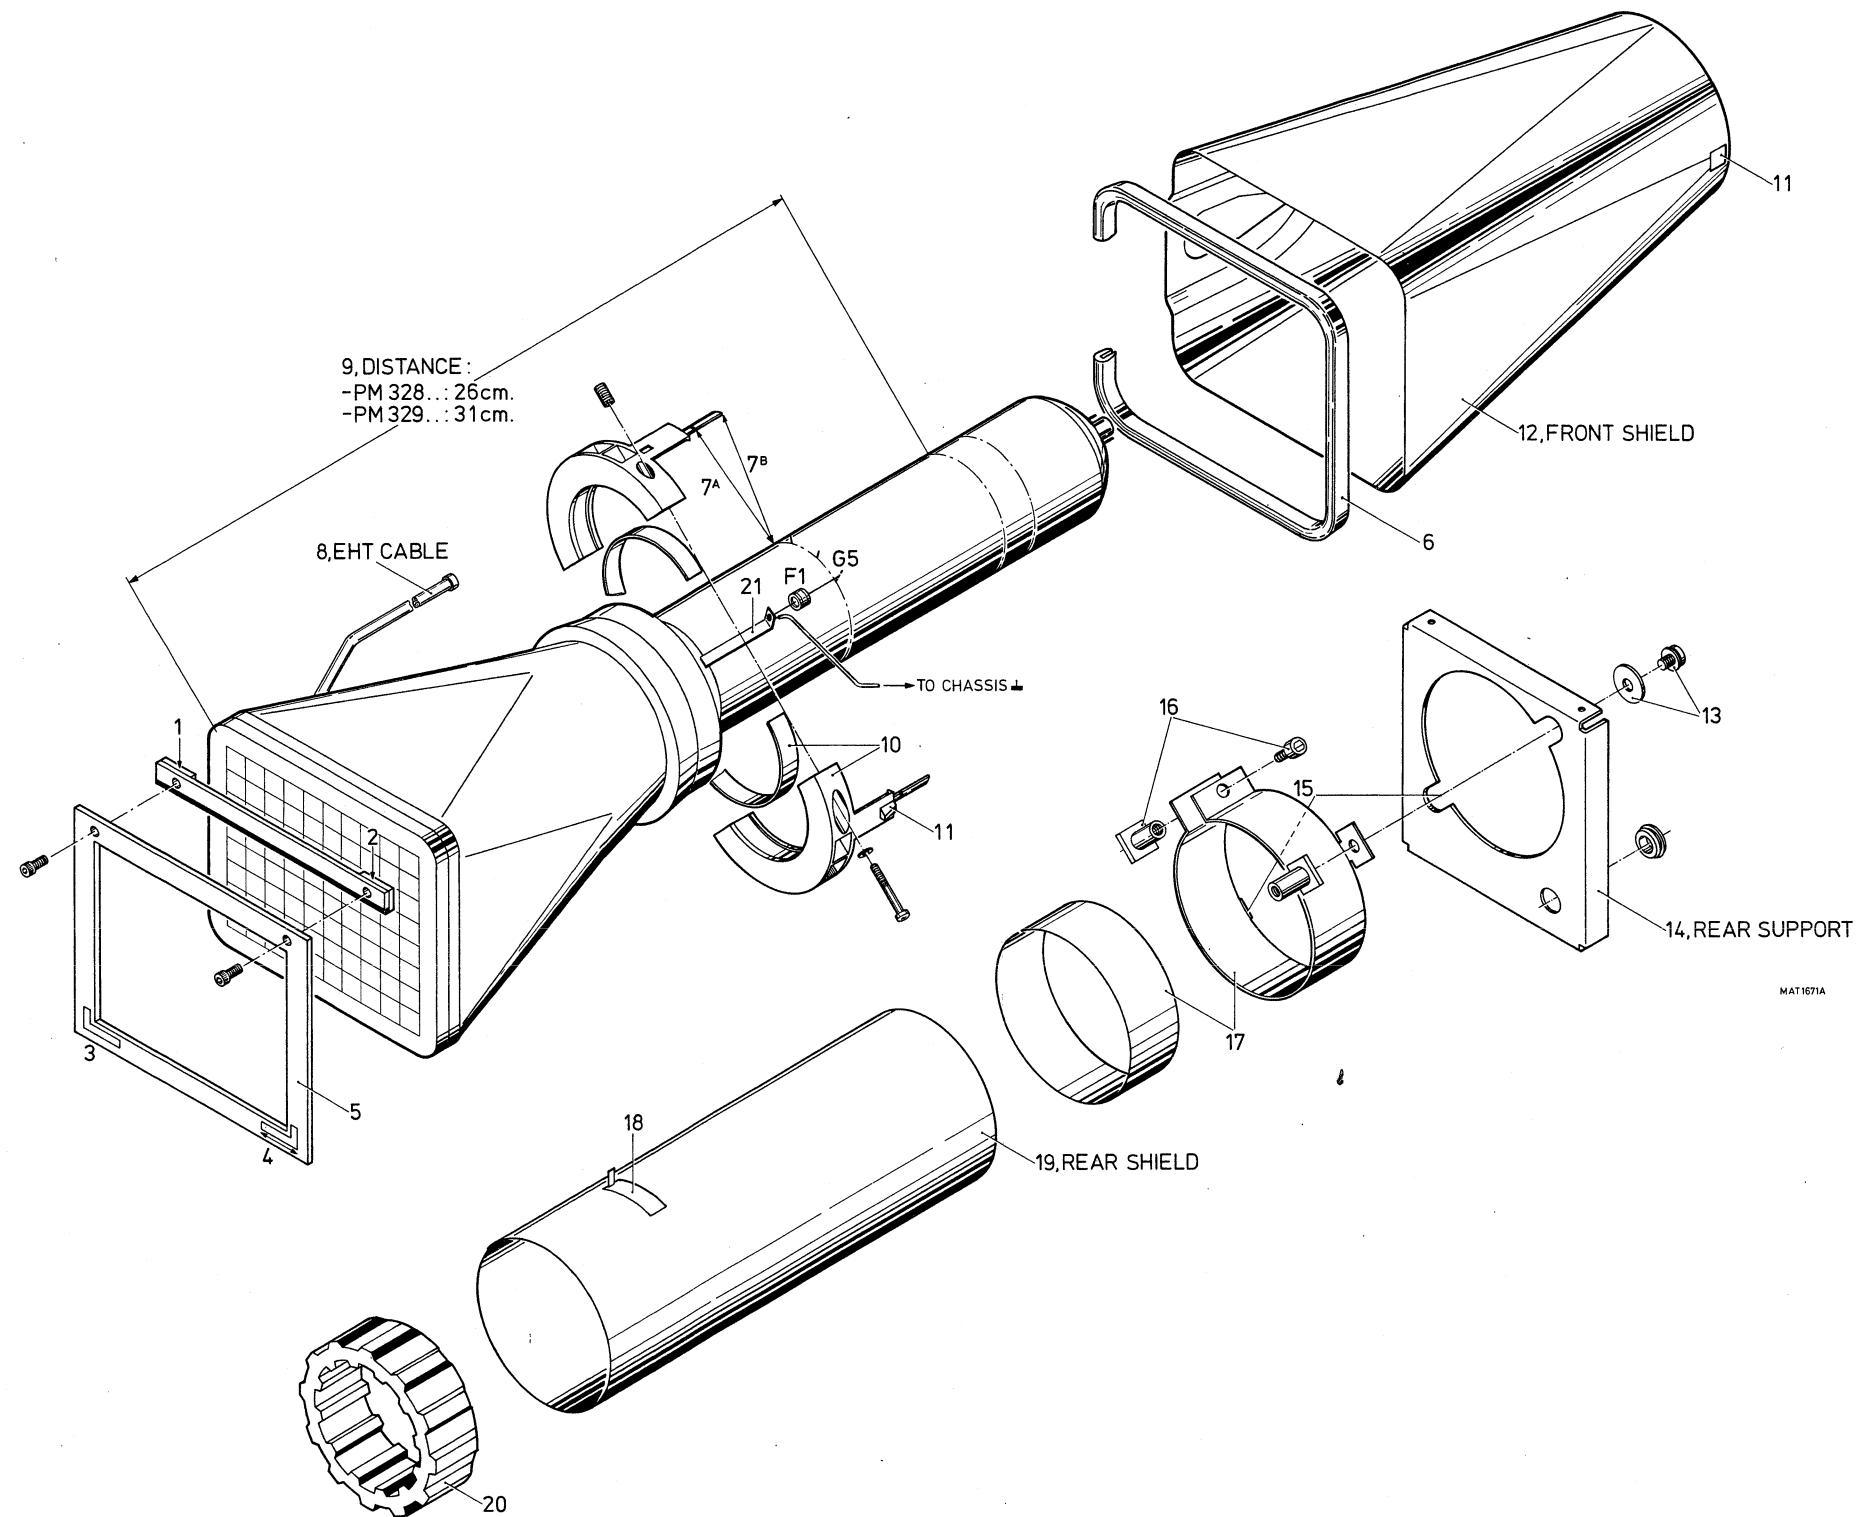

Fig.26.6. Exploded view of CRT and belonging mechanical parts.
**IMPORTANT:** It is strongly recommended to take notice of this chapter and belonging figure 26.6. before starting the job. Bear in mind that there are slight differences between PM328.. and PM329.. Where it happens, it is indicated.
- Install the positioning ring (10) so that the end of the positioning tags (7B, PM329.) or the indication line on the tags (7A, PM328.) are at the same level as the side connection pins of the CRT (see fig 26.6.). The position of the clamping springs (11) must be so, that the front shield (12) fits correctly into them. When doing this, take care of the correct positioning of the EHT-cable (8) and the trace rotation wires and mount the plastic rim (6). For PM329. the earthing bracket (21) for protection tube F1 must be positioned under ring (10). This bracket also earthens the CRT.
- Put the rubber ring (20) around the CRT. The distance (9) between the ring and the end of the CRT-screen must be 31 cm for PM329. and 26 cm for PM328..